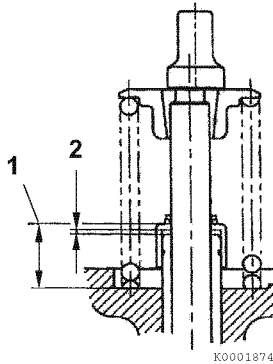

Figure 6-30
2. Measure the distance (**Figure 6-30, (1)**) from the cylinder head to valve stem seal to ensure proper clearance (**Figure 6-30, (2)**) between the guide and the seal. See *Valve Stem Seal Projection specification on page 6-5*.